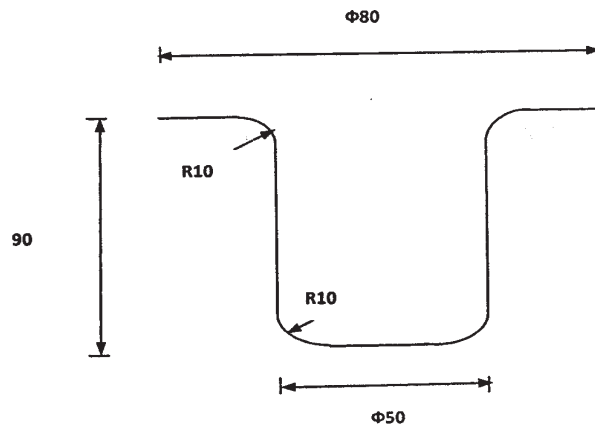

Figure 1
b) Calculate blank size by graphical method for the component as shown in figure 1. [10]
**Q4)** Design a Drawing die for the component as shown in figure 1.